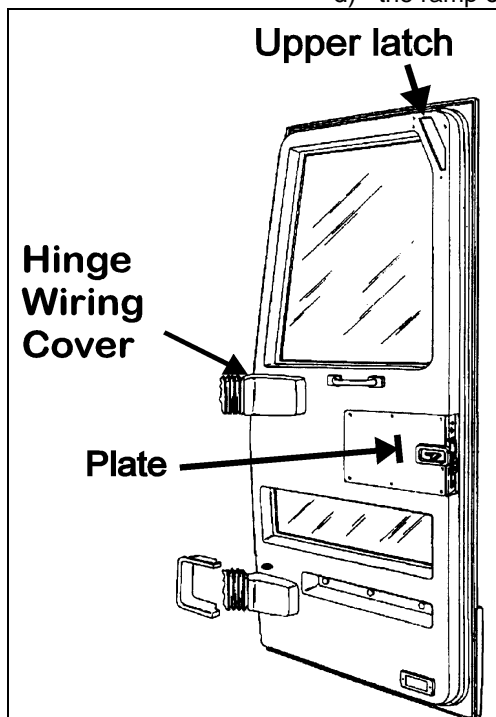

FIGURE 1: ENTRANCE DOOR
1. In order to expose the (1/4" dia) tube and entrance door wiring (Fig. 1 and 2) located on interior side of entrance door, remove the following items: